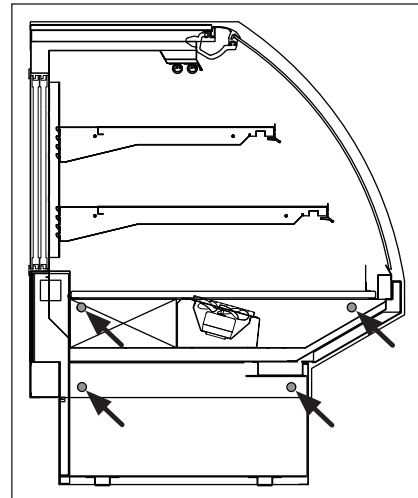

Fig. 4 Bolt locations (SMD-R BAKERY)
4. Push the cases tightly together, then lightly bolt them together through the holes provided (Fig. 4 & 5). Tighten all the joining bolts until all margins are equal. Be careful not to over tighten.